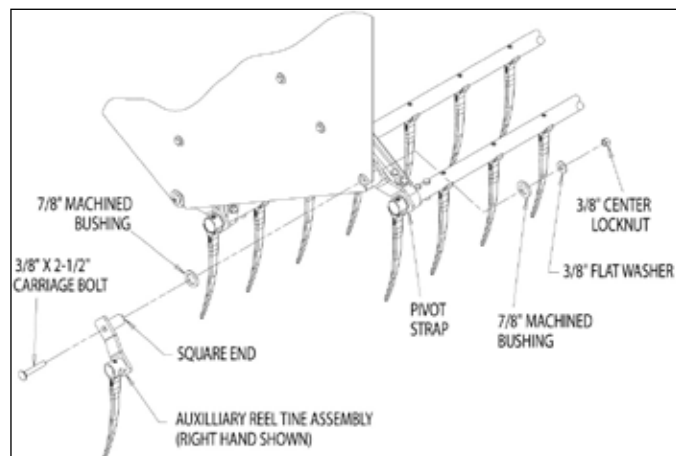

Figure 36, Assemble auxiliary reel tine kit
2. Assemble the auxiliary reel tine assembly with two steel machine bushings as shown in Figure 36.